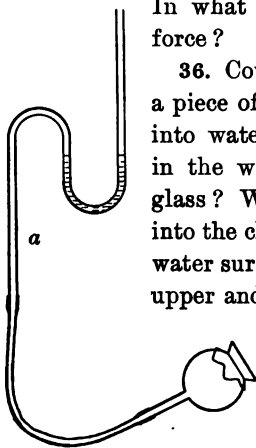

FIG. 5
37. Bend a long piece of tubing to the shape of *a*, Fig. 5, and put water in the bend to serve as a pressure gauge.